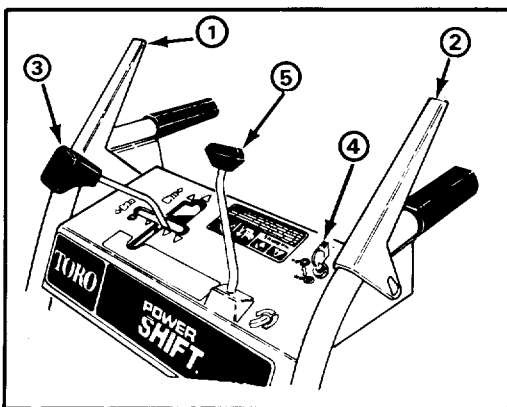

Figure 9
Auger/Impeller Control (Fig. 9) — Control has two positions: ENGAGE and DISENGAGE. To engage auger and impeller, compress lever against right handle grip. To disengage, release lever.
Traction Drive Control (Fig. 9) — To engage traction or activate power shift system, lever must be compressed against left handle grip. To stop traction, release lever.
Speed Shift Control (Fig. 9) — The control has four speeds forward and two reverse and also controls power shifting of wheels. To select speeds, move shift control to desired position.
Auger Lock-Up (Fig. 9) — When auger/impeller control and traction drive control are both compressed, the traction control locks the auger/impeller control down. Releasing the traction control releases the auger/impeller.
Discharge Chute Control (Fig. 9) — Rotate discharge chute control clockwise to move discharge chute to the right and counterclockwise to move chute to the left.
Ignition Switch (Fig. 9) — Switch has two positions: ON and OFF. Rotate key to ON position before starting engine. To stop engine, rotate key to OFF.
1. Move speed shift control to N (neutral) and throttle to FAST (Fig. 9).
4. Rotate ignition key to ON (Fig. 9).
1. Release traction and auger/impeller drive controls (Fig. 9).